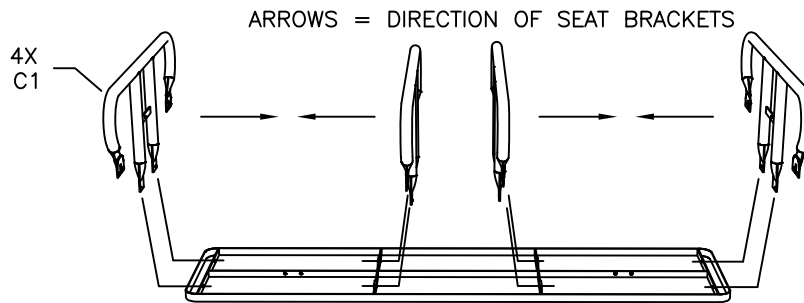

FIG. 1
Invert (A-) top so it's upside down on a flat surface. Attach both (C1) legs to the outer brackets of the top, with seat mounting brackets toward inside of top. Attach both (C1) legs to the inner brackets of the top, with seat mounting brackets facing towards outer (C1) seat mounting brackets. see FIG. 1. Use two, per each leg, (F) and (H) using two (G) and one (I) per each (F).
Secure the opposite end of each brace to the top's center support brace, see FIG. 3, refer to FIG. 1 or 2, using one, per each brace, (F) and (H). Use two (G) and one (I) per each (F).